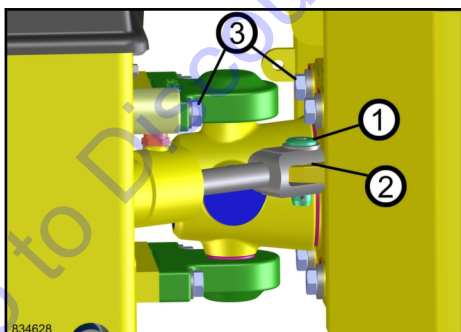

Fig. 185
6. Remove the split pin from the steering cylinder bearing bolt 1 ↪ Fig. 185 and knock out the bolt.
7. Remove the backing discs (2).
8. Unscrew fastening screws (3) with washers and lift out the oscillating articulated joint.